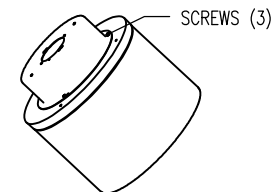

FIG. 3
4. RE-ATTACH FIXTURE TO SURFACE EXTENDER BY PLACING THREE SCREWS ON TOP OF FIXTURE THROUGH THREE KEY-HOLE SLOTS IN SURFACE EXTENDER FLANGE. (SEE FIG. 3) TIGHTEN THREE SCREWS.